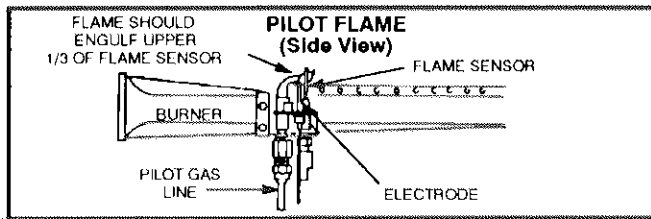

FIGURE 5
- 1- *Pilot Flame* -- Pilot flame must surround the end of thermocouple for proper operation of pilot safety circuit. See figure 5.